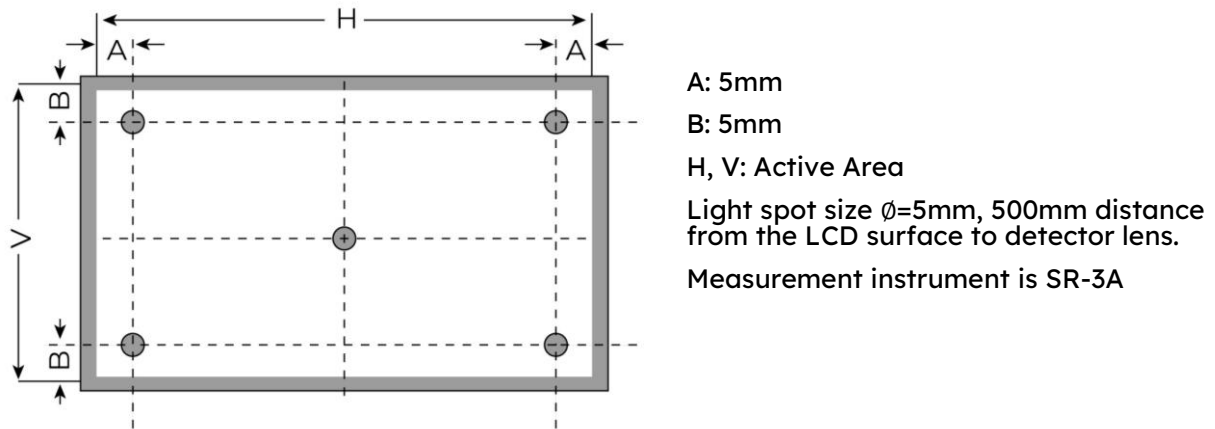

Figure 2. Measuring method for Contrast ratio, surface luminance, Luminance uniformity, CIE (x, y) chromaticity
**Note 1.** Contrast Ratio (CR) is defined mathematically as below, for more information see Figure 2.
**Note 2.** Surface luminance is the LCD surface from the surface with all pixels displaying white. For more information see Figure 2.
**Note 3.** The uniformity in surface luminance  $\delta$  WHITE is determined by measuring luminance at each test position 1 through 5 and then dividing the minimum luminance of 5 points luminance by maximum luminance of 5 points luminance. For more information see Figure 2.